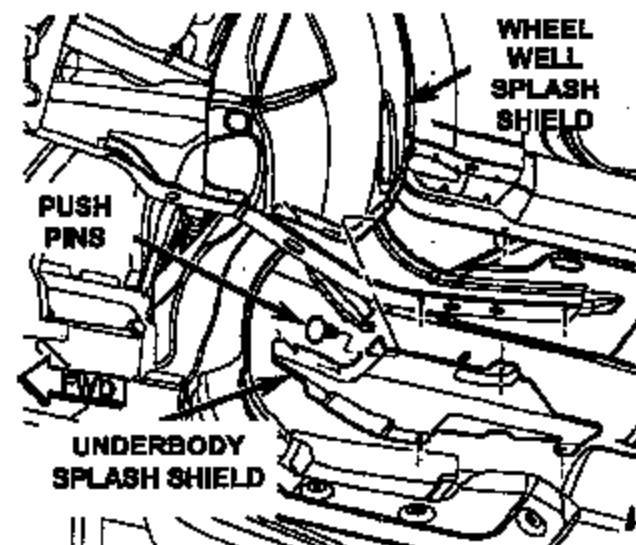

Figure 3
17. Remove the six (6) passenger side underbody splash shield push pins (Figure 3).
18. Remove the underbody splash shield (Figure 3).
21. Install the underbody splash shield (Figure 3).
22. Install the underbody splash shield push pins (Figure 3).
- b. Remove the six (6) passenger side underbody splash shield push pins (Figure 3).
- c. Remove the underbody splash shield (Figure 3).
17. Install the underbody splash shield (Figure 3).
18. Install the underbody splash shield push pins (Figure 3).